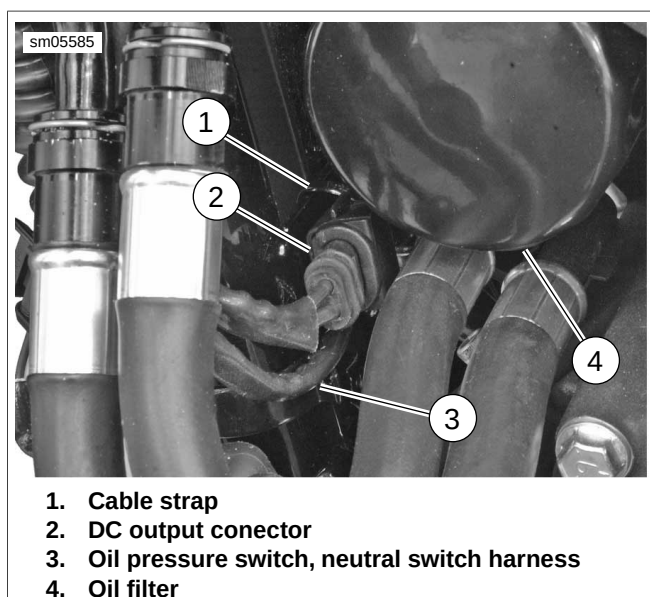

Figure 6-10. DC Output Connector: XR Models
3. See Figure 6-10. Cut cable strap (1). Lift external latch on connector and separate connector halves.